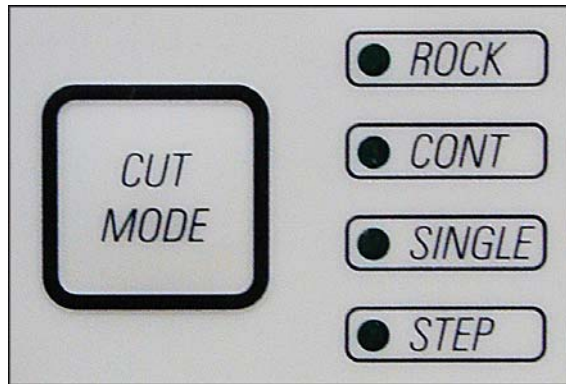

Fig. 18
- Using the CUT MODE button, select the desired operating mode, CONT, SINGLE or STEP, on the control panel (Fig. 18).